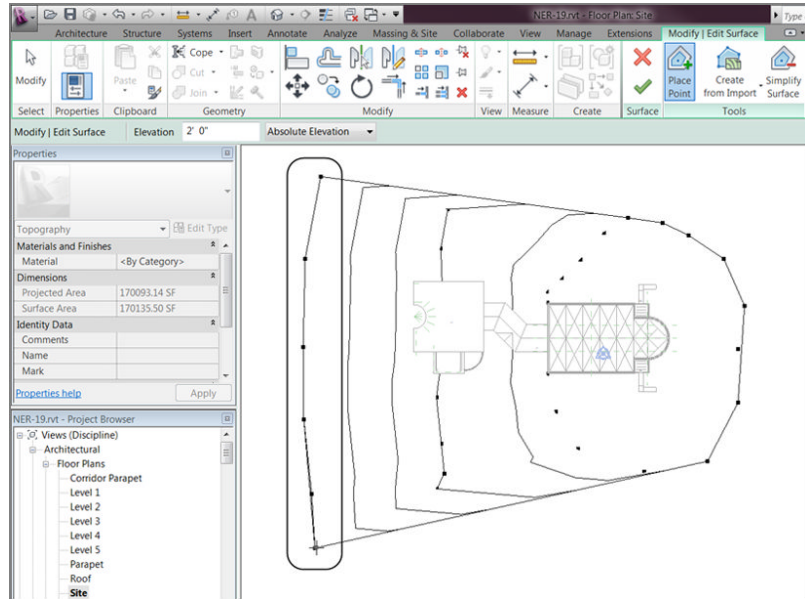

FIGURE 18.4: Adding the third set of contours
10. Add a third contour line to the left of the second, as shown in Figure 18.4.